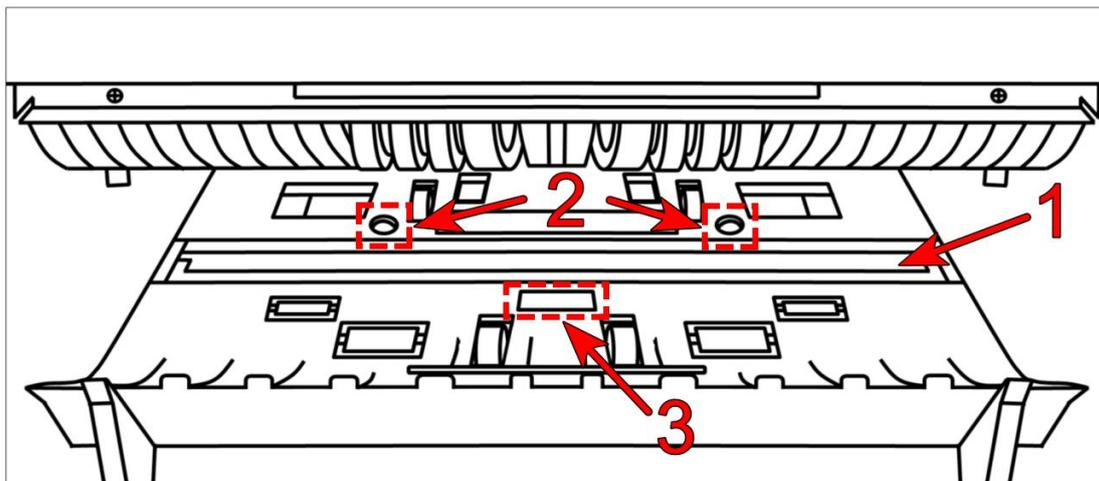

Figure 98
3) Clean the lower UV sensor and lower CIS with nylon brush as shown in the following Figure 98. Wipe the lower CIS of mark 1 in one direction with a dust-free cloth, and then clean the infrared receiving lamp of mark 2 and the lower UV lamp of mark 3 with a nylon brush.